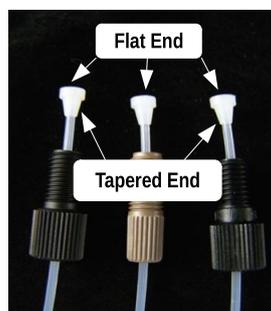

Figure 7. White Ferrule with the tapered end facing the Nut.
**NOTE:** See Figures 7 & 8 for proper *Ferrule* installation.
The *White Ferrule* slides onto the *Tubing* with the tapered end toward the *Nut* and the flared end toward the *Valve Port*. The *Tan Ferrule* slides onto the *Tubing* with the tapered end toward the end of the *Tubing* and the flat end toward the *Nut*. When installing and tightening these fittings, be sure to push the *Tubing* all of the way into the *Valve Ports* (Figures 7 & 8).